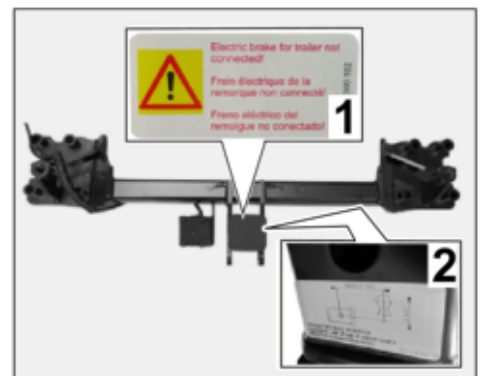

Figure 16
- 2.7.2 Affix sticker showing the warning "Electric Brake for Trailer not connected" on a clean surface at a clearly visible position next to the "Ball Position" sticker or the dashboard (⇒ *Figure 16*).